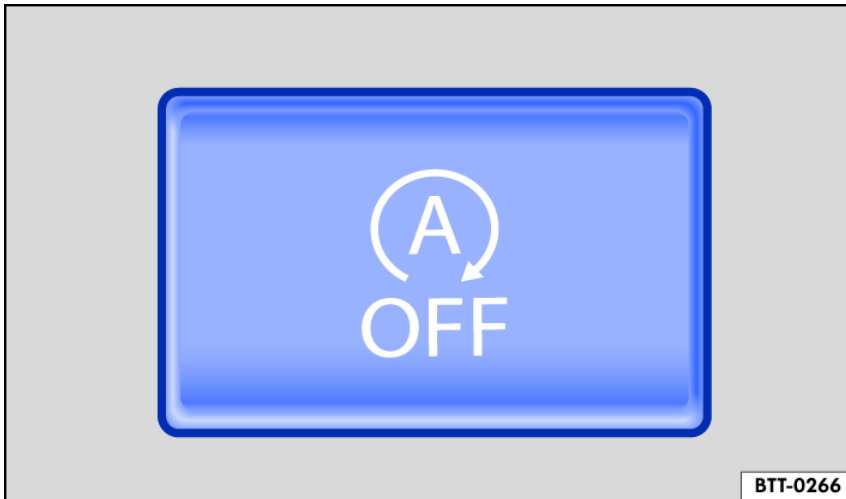

Fig. 114 In the upper section of the center console: Button for the start-stop system.
When the start-stop system is deactivated, the indicator light on the button comes on fig. 114.
1. To activate the system manually, press the  button in the center console again fig. 114.